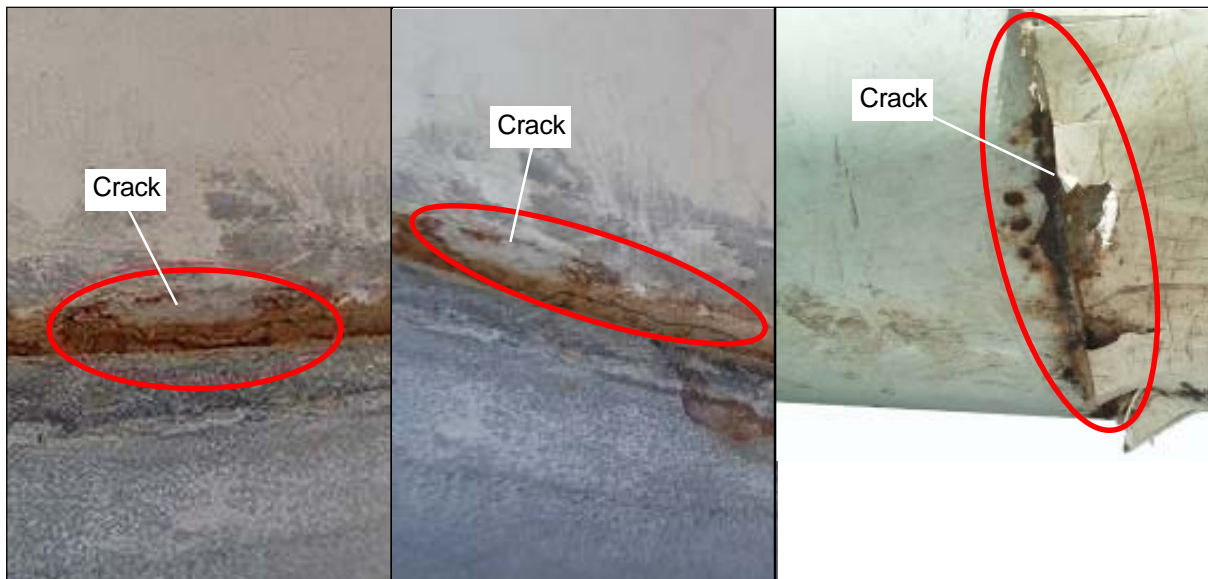

Figure 4 — Fiberglass Cracks
12. With the unit still in the overcenter position and the platform no more than one foot from the ground, have a second person standing on the ground at the platform quickly push up and down on the platform (maximum force of 150 lbs) in order to “bounce the boom” slightly. As the second person bounces the boom up and down, inspect the fiberglass to steel joint area around the entire boom for any signs of cracking in the gelcoat or fiberglass. The cracks may be small (refer to Figure 4). Also look for any signs of excessive motion at the fiberglass to steel joint.